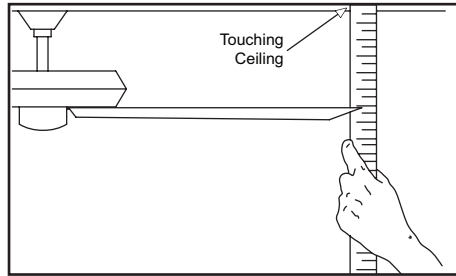

Figure 14
2. Most fan wobble problems are caused when blade levels are unequal. Check this level by selecting a point on the ceiling above the tip of one of the blades. Measure from a point on the center of each blade to the point on the ceiling. Measure this distance as shown in Figure 14. Rotate the fan until the next blade is positioned for measurement. Repeat for each blade. Measurements deviation should be within 1/8". Run the fan for 10 minutes.